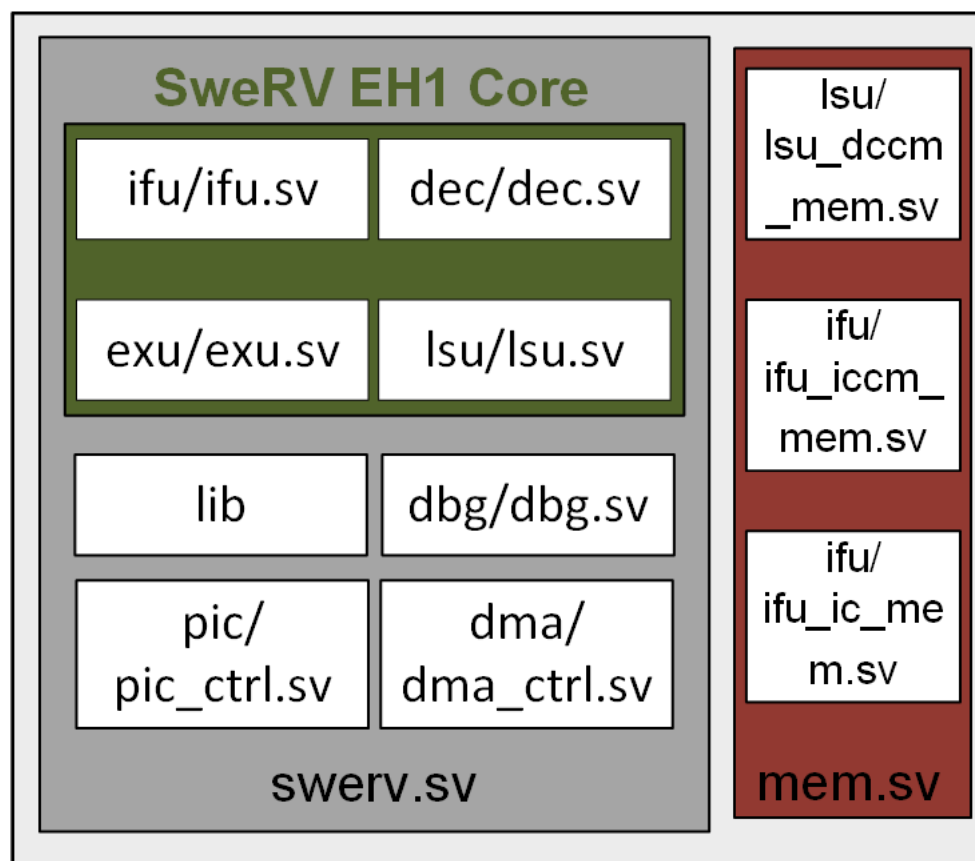

Figure 27. SweRV EH1 Core Complex
Figure 27 shows the file structure of the **SweRV EH1 Core Complex** (Figure 20). The core is organized into three main blocks: a SweRV wrapper (highlighted in grey) that includes the SweRV EH1 Core (highlighted in green) and some other elements (such as the Interrupt Controller or the Debug Unit), and the Data/Instruction memories and Instruction Cache (highlighted in red).
The top file for the SweRV EH1 Core Complex is in the file: *swerv_wrapper.sv*; the top module is called **swerv_wrapper**, and it instantiates two modules that correspond to the two blocks highlighted in grey and red in Figure 27:
The SweRV EH1 Core (highlighted in green in Figure 27) consists of the following four units:
- **swerv_wrapper_dmi** (available inside *SweRVEh1CoreComplex/swerv_wrapper_dmi.v*): instantiation (line 407 of *swervolf_core.v*) of Western Digital's SweRV EH1 Core Complex, described in the previous section (Figure 27).